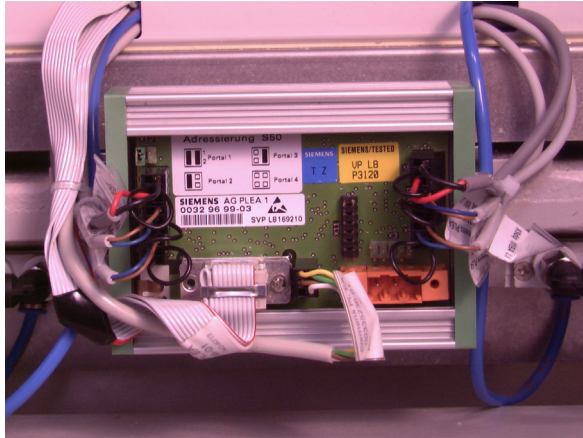

Fig. 5.6.6 Control Unit
- Mount an adhesive fixing pedestal for cable ties on the outside LH and RH side of the control board box (see Fig. 5.6.6 for location).